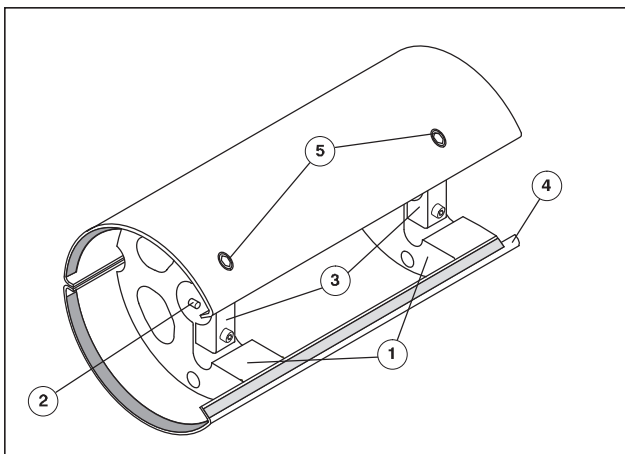

Fig. 18 Super Blue delivery drum, assembly
1. Lay the supports (Fig. 18/1) for the sheet-metal jackets at the shaft so that the aligning pins (Fig. 18/2) lie in the groove of the shaft.
2. Screw the retaining bridges (Fig. 18/3) on D.S. and O.S. to the supports (Fig. 18/1) (Allen screws) so that the supports can still be moved laterally on the shaft.
5. Move the supports laterally until the boreholes in the sheet-metal jacket (Fig. 18/5) lie above the boreholes in the supports.